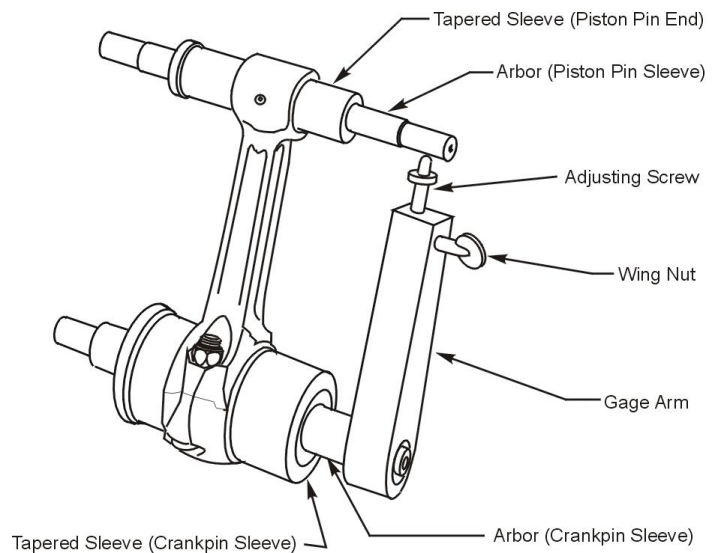

Figure 2
- B. Insert the tapered sleeves (Figure 2) of the Connecting Rod Parallelism and Squareness Gage in the bearing holes in the connecting rod.
- J. Remove the gage arm (Figure 2).